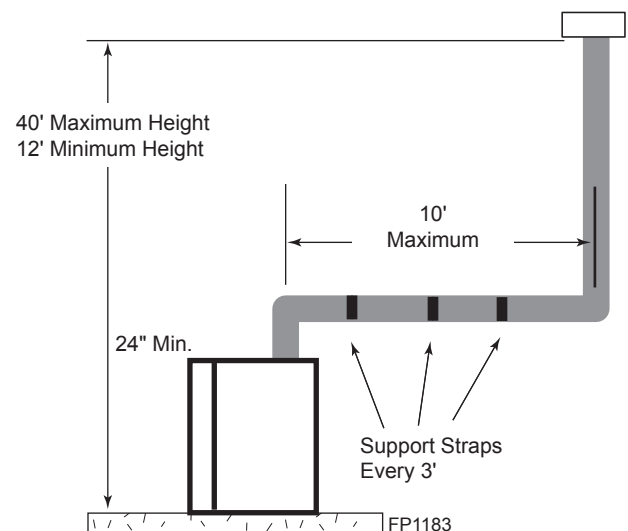

**Figure 21 - Support Straps for Horizontal Runs**
- Vertical installations up to 40' (12 m) in height. Up to a 10' (3 m) horizontal vent run can be installed within the vent system using a maximum of two 90° elbows. *Figure 21*
**NOTE:** If an offset is needed to avoid obstructions, you must support the vent pipe every three (3) feet. Use wall straps for this purpose. *Refer to Page 18, Figure 21.* Whenever possible, use 45° elbows instead of 90° elbows. The 45° elbow offers less restriction to the flow of the flue gases and intake air.